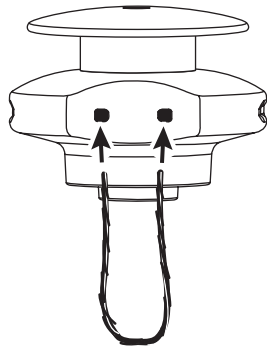

Fig. 18
1. Insert each end of the replacement line into the holes on either side of retention hook (Fig. 18).